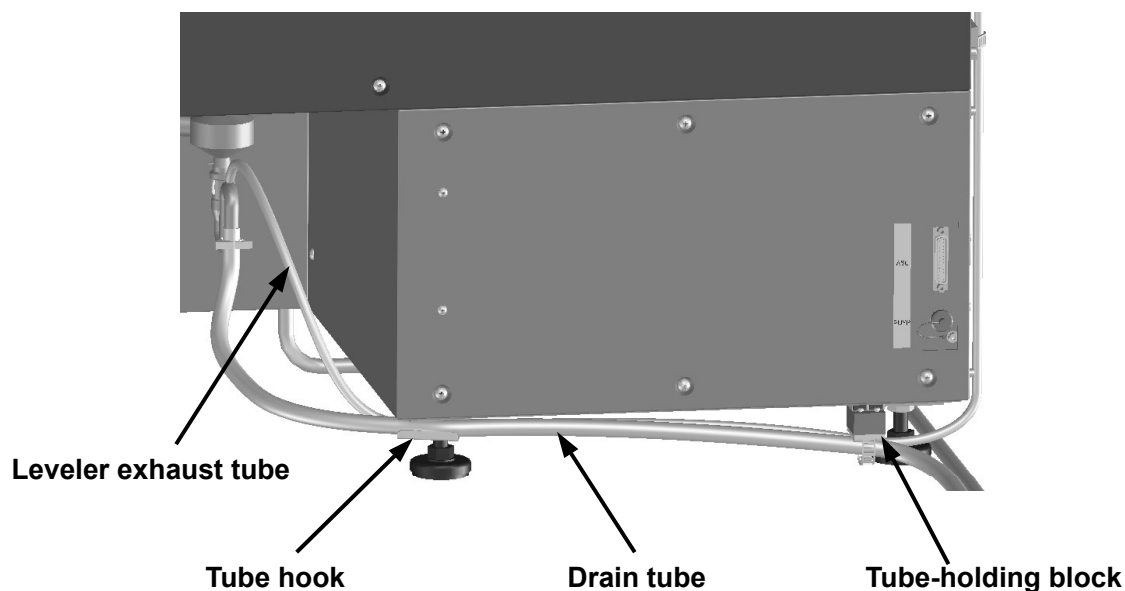

Fig. 8-14 Tube Arrangement on Right Side
- (1) Pull the leveler exhaust tube out of the leveler. (See "Fig. 8-14".)
- (2) Remove the exhaust tube from the tube hook and the tube-holding block.
- (3) Remove the leveler exhaust tube from the holding bands on the duct.
- (4) Remove the leveler exhaust tube from the holding bands on the rear side.
- (5) Insert the new leveler exhaust tube in the holding bands on the duct. Ensure that the end of the leveler exhaust tube does not protrude above the top end of the plasma stand exhaust guide.
- (6) Secure the leveler exhaust tube with the holding bands on the rear side.
- (7) Secure the leveler exhaust tube and the drain tube with the tube-holding block and the tube hook. Ensure that there is no slack in the drain tube. (See "Fig. 8-14".)
- (8) Attach the leveler exhaust tube to the leveler.